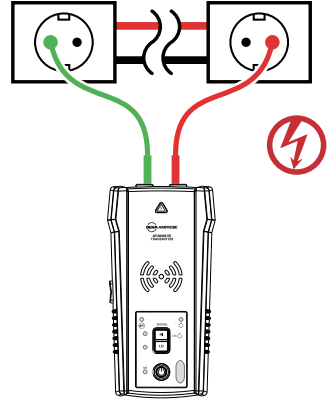

Figure 3.1a:
2. Using provided test leads accessories, connect the red test lead to the line/phase wire being traced. For Energized systems the signal will ONLY be transmitted between the load-side to which the Transmitter is connected and the source of power (see Figure 3.1a).